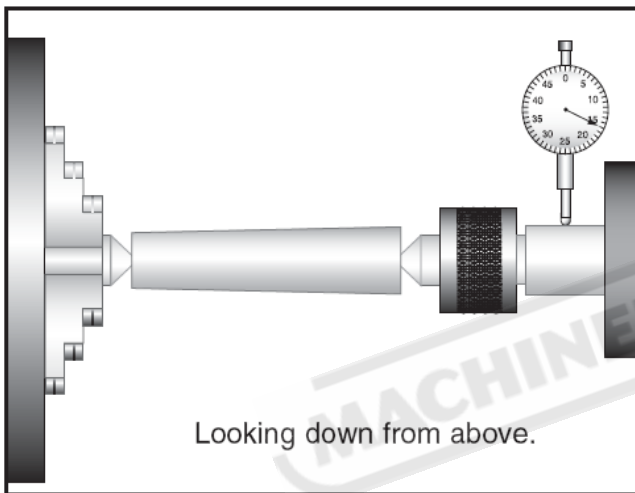

Figure 30
6. Mount a dial indicator so that the plunger is on the tailstock quill (see **Figure 30**).
7. Measure the stock with a micrometer. If the stock is wider at the tailstock end, the tailstock needs to be moved toward the front of the lathe the amount of the taper (see **Figure 30**).